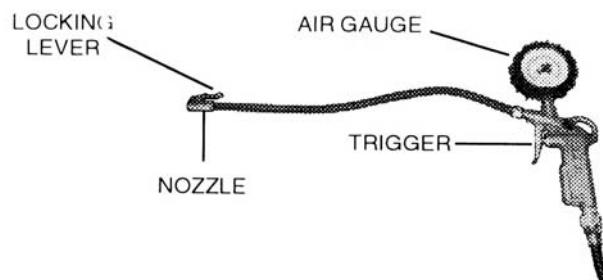

Fig.4
- 5) Press the trigger on the air gauge to release air from the nozzle. (Fig.4)
- 2) To inflate the tire, attach the air gauge nozzle (See Fig.4) to the tire valve stem with the locking lever in the "UP" position. Check the condition of the tire, and make sure the nozzle is pressed down completely over the threads of the valve stem.